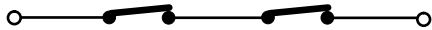

Fig. 4
N.B. If two or more safety devices have the same function (opening, closing, opening and closing, edge), the contacts must be connected to each other in series (fig. 4).
To install several safety devices, connect the N.C. contacts in series (fig.4).